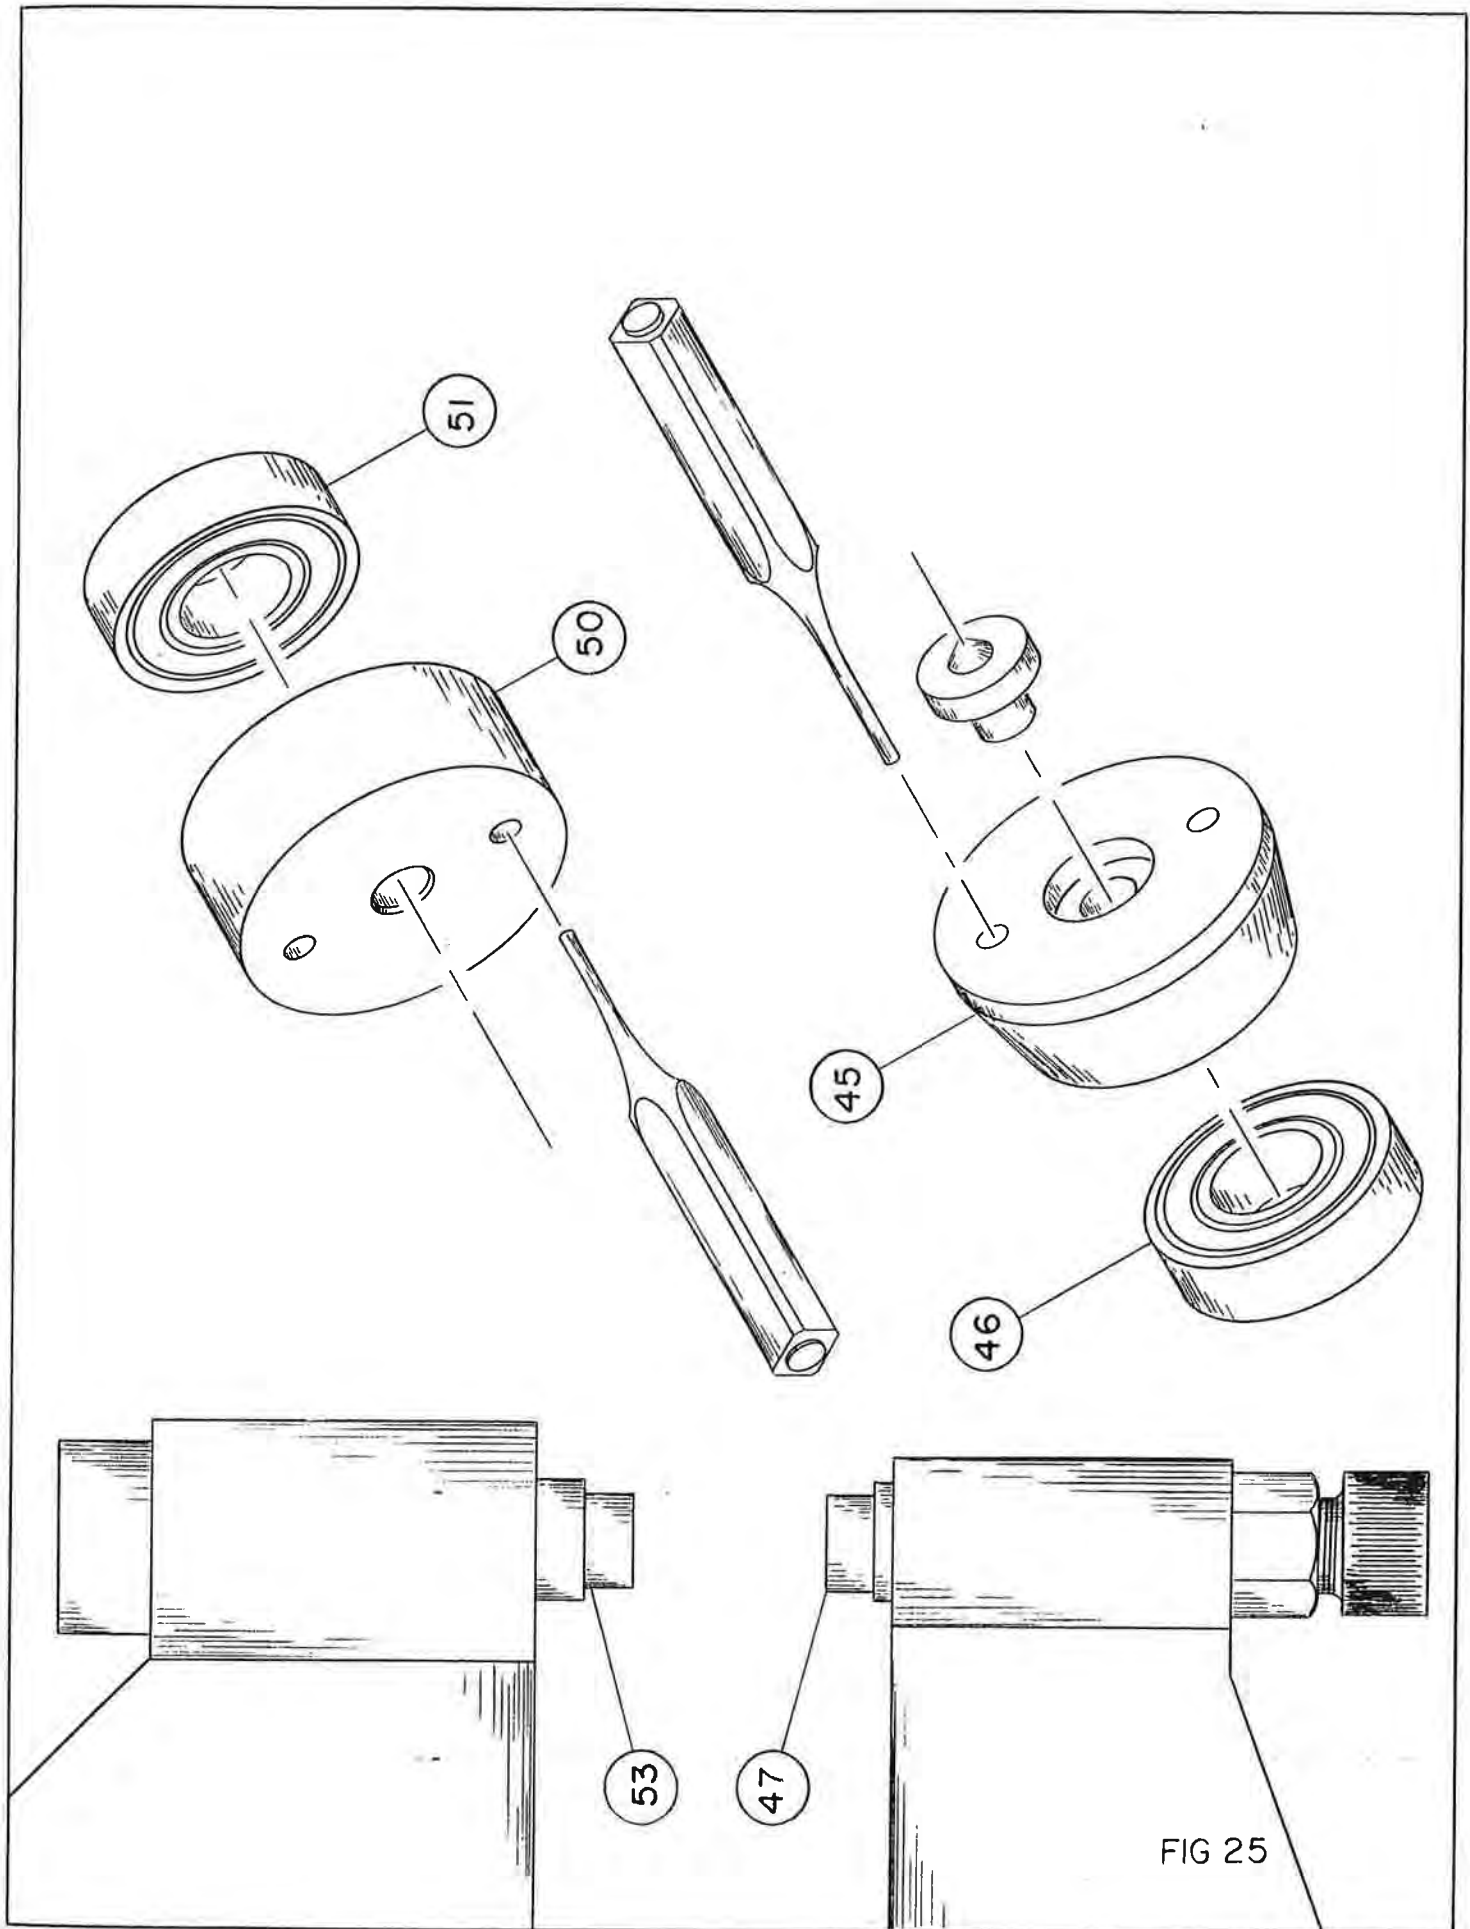

FIG 25
To replace the bearings #46 & 51 (1) in either the upper #50 (1) or lower #45 (1) clamping plate, remove the clamping plate from its shaft and place it on a vise, with the opening of the vise large enough to catch the outside edge of the clamping plate with the working side of the clamping plate facing up. Use a 3/32 inch drift punch, as shown in Fig. 25 Page 35, to drive the bearing out of the clamping plate, through the 1/8 inch holes in the working side of the clamping plates. Drive a little at a time on either side of the bearing, through the 1/8 inch holes, until the bearing is out of the clamping plate.
(1) See Fig. 25 Page 35